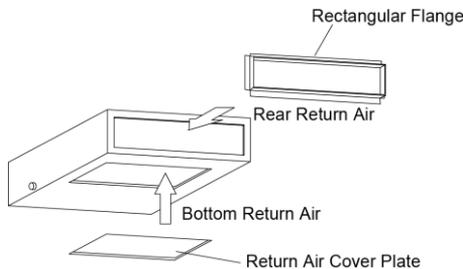

Fig. 4.35
- (2) The default installation location of the rectangular flange is at the back and the return air cover plate is at the bottom, as shown in Fig. 4.35.